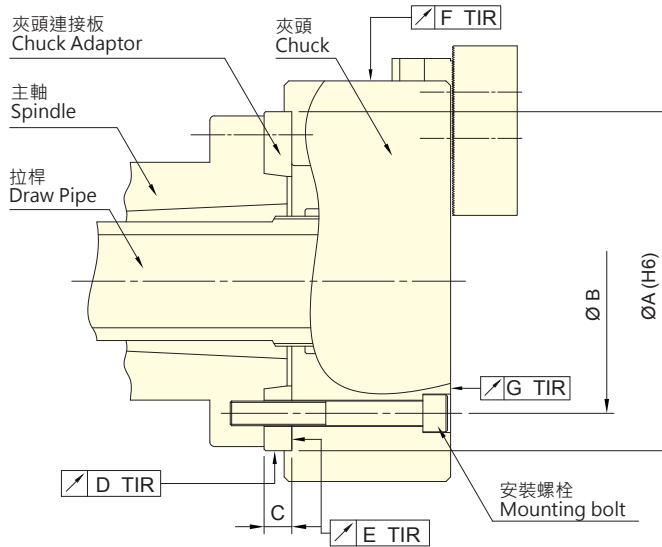

Fig.12
- Fig.12 為 JIS 短錐度主軸圖。
- Fig.12 shows JIS short tapered spindle.